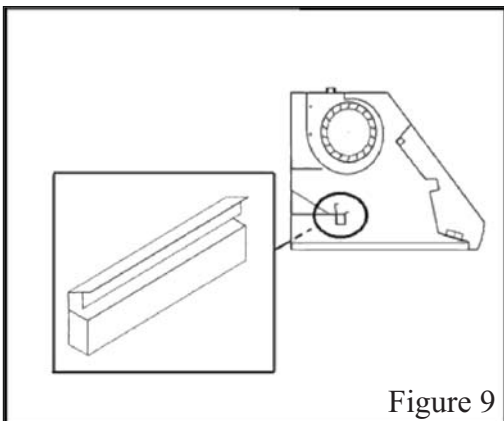

Figure 9
7. Drop oil tunnel into recess support near rear of hood. Refer to Figure 9.